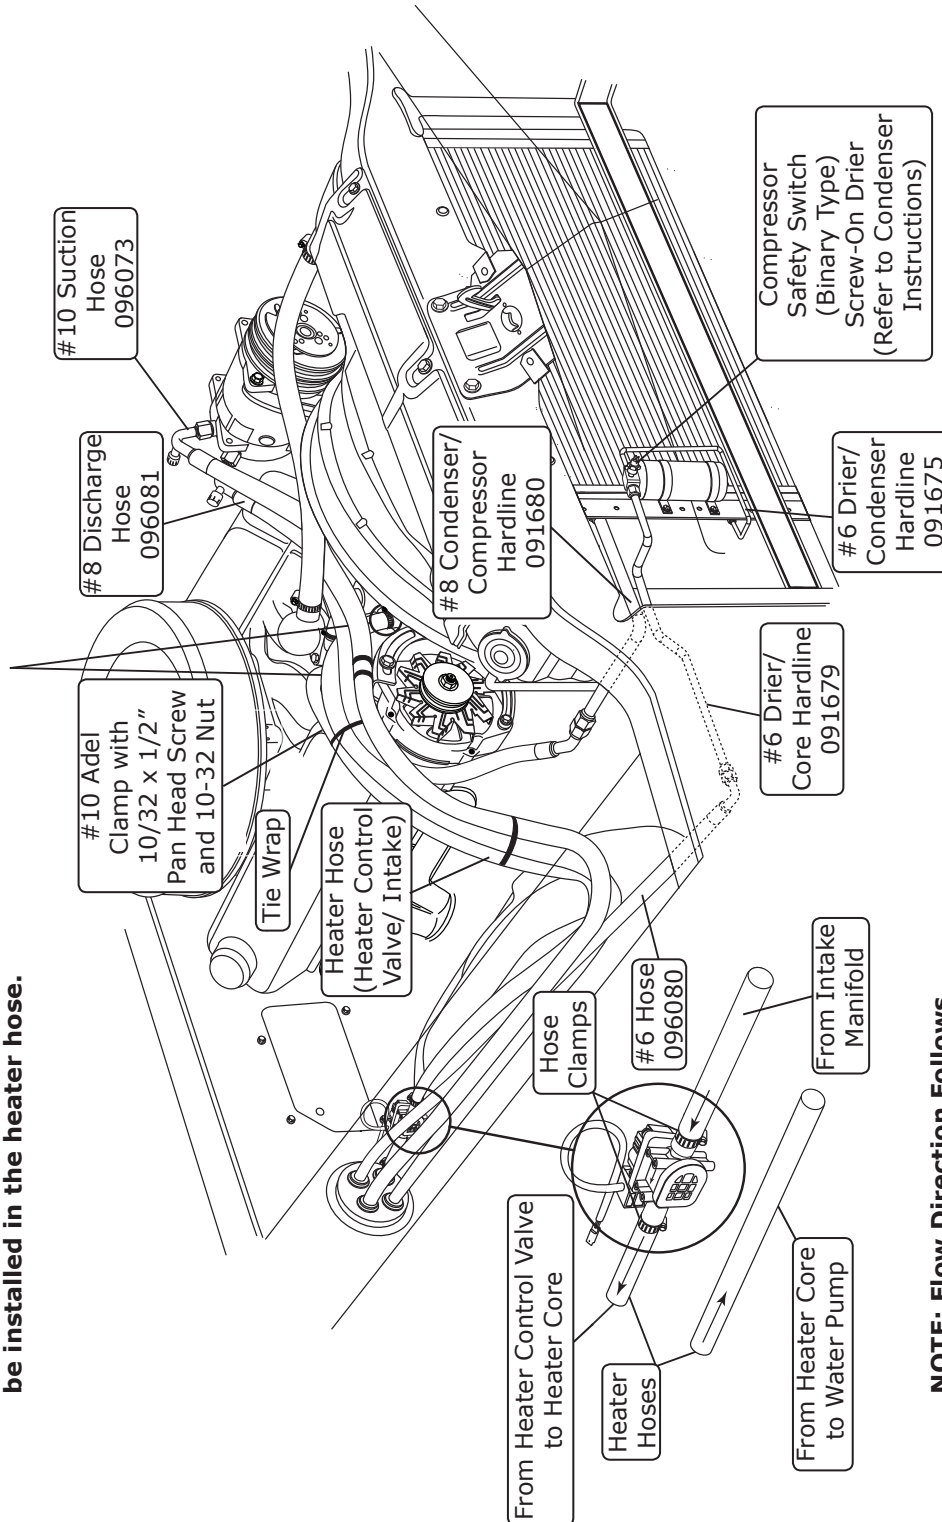

Figure 16
1. Locate the #8 compressor A/C hose. Lubricate (2) #8 O-rings (See Figure 15, above), and connect the 90° female fitting with service port to the #8 discharge port on the compressor. Route the 45° female fitting to the #8 condenser hardline coming through the core support (See Figure 16, Page 16). Tighten each fitting connection as shown in Figure 15, above.
2. Locate the #10 compressor A/C hose. Lubricate (2) #10 O-rings (See Figure 15, above), and connect the 135° female fitting with service port to the #10 suction port on the compressor. Route the 90° female fitting to the #10 fitting on the evaporator (See Figure 12a, Page 13, and Figure 16, Page 16). Tighten each fitting connection as shown in Figure 15, above.
3. Locate the #6 evaporator A/C hose. Lubricate (2) #6 O-rings (See Figure 15, above), and connect the 90° female fitting to the #6 hardline coming through the core support from the drier. Route the other 90° female fitting to the #6 fitting on the evaporator (See Figure 12a, Page 13, and Figure 16, Page 16). Tighten each fitting connection as shown in Figure 15, above.
1. Route a piece of heater hose from the water pump to the upper heater core fitting as shown in Figure 12a, Page 13, and Figure 16, below.
2. Route a piece of heater hose from the intake to the heater control valve, and from the heater control valve to the bottom heater core fitting as shown in Figure 12a, Page 13, and Figure 16, below. **NOTE: Install the heater control valve in line with the intake manifold (pressure side) heater hose, and secure it using hose clamps as shown in Figure 16, below. Also note proper flow direction.**